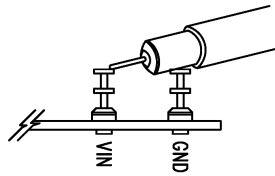

Figure 2. Measuring Input or Output Ripple
**Note:** when measuring the input or output voltage ripple, care must be taken to avoid a long ground lead on the oscilloscope probe. Measure the input or output voltage ripple by touching the probe tip directly across the Vin or Vout and GND terminals. See Figure 2 for proper scope probe technique.